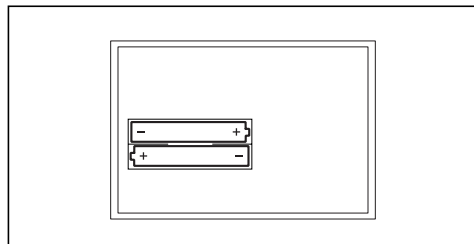

Fig. 4.2 Changing the batteries
- The batteries can now be changed (2x AAA-LR03; Fig. 4.2). Make sure that the polarity of the batteries is correct.